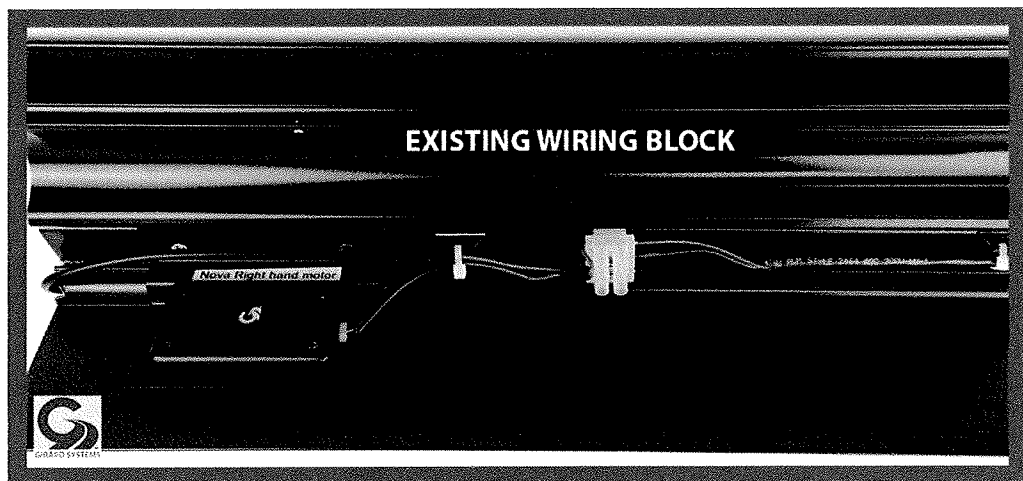

Figure 1
- A. Locate the wiring block that is supplying the motion sensor and led lighting system 12V power (if present). This should be located on the far right or far left side of the awnings' Lead Rail. (Figure 1)